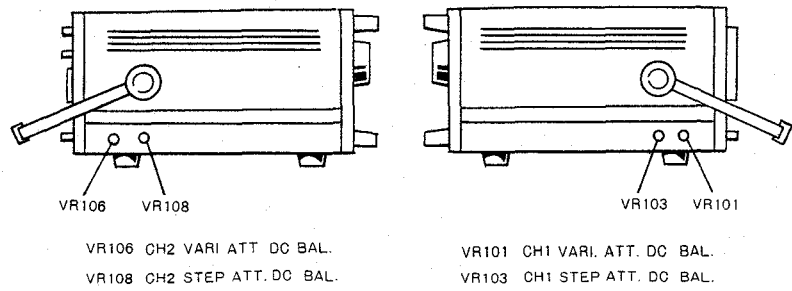

Fig. 41 Location of adjustments, right and left sides of scope
5. VARIABLE ATT DC BAL Adjustment (Fig. 41)
6. STEP ATT DC BAL Adjutment (Fig. 41)
9. VARIABLE ATT DC BAL Adjustment (Fig. 41)
10. STEP ATT DC BAL Adjustment (Fig. 41)